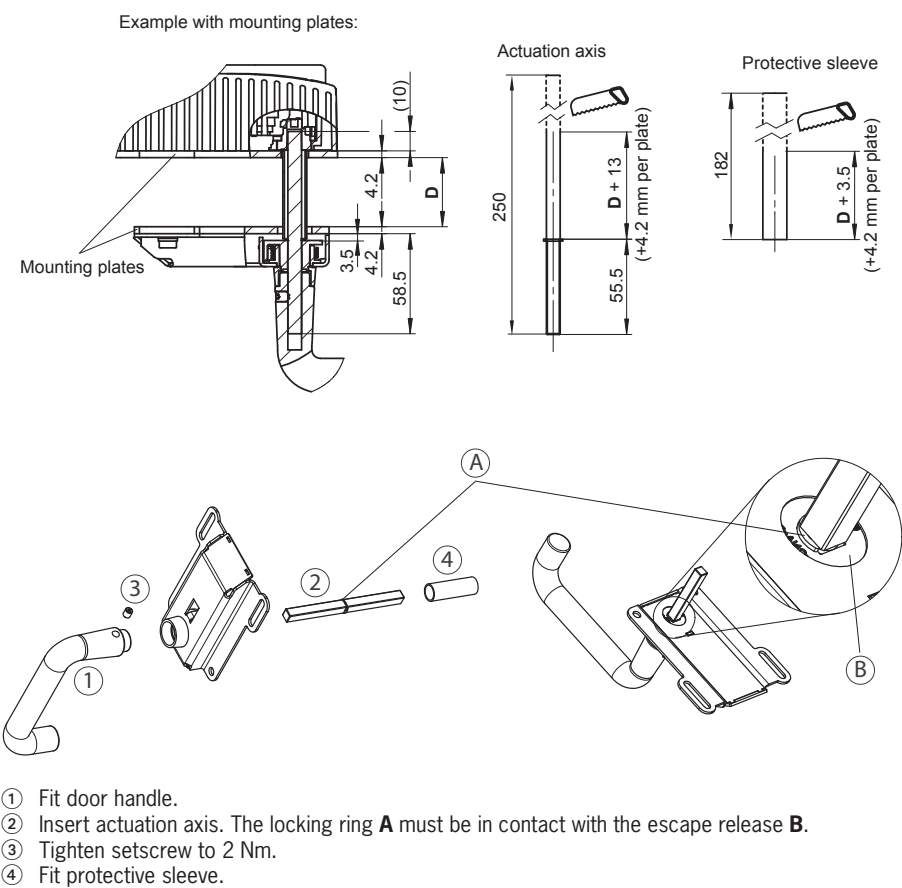

Figure 8: Preparing escape release
- › Align escape release axis at right angles to the handle module. See Figure 8.